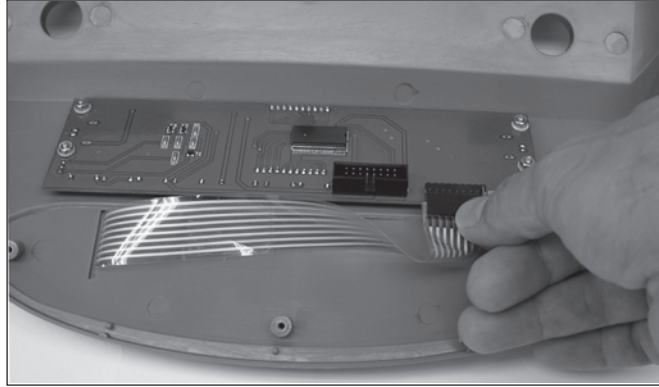

Figure 4-4. Disconnecting the Membrane Switch Cable.
4. Disconnect the Membrane Switch Cable from the Display PCB as shown in Figure 4-4.